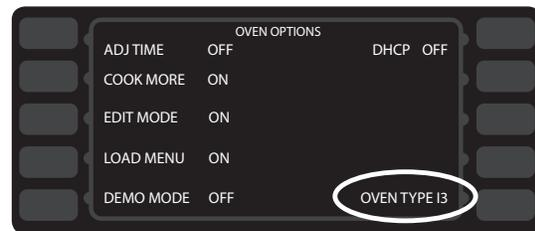

Figure 10: Oven Type Setup
- e. In the lower-right corner of the screen, verify that the oven type is set correctly. i3 ovens should show “i3” and i5 ovens should show “i5” (Figure 10).